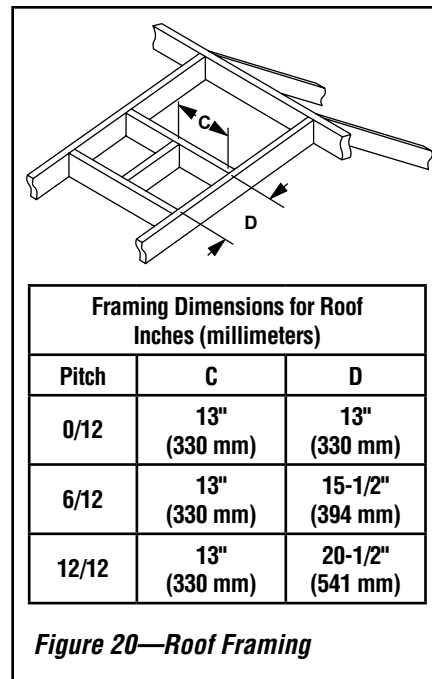

Figure 20—Roof Framing
H. Frame roof opening—Identify location for vent at the roof. Cut and/or frame opening per Roof Framing Chart (**Figure 20**).
Analyze the vent routing and determine the types and quantities of sections required 4-1/2" (114 mm), 10-1/2" (267 mm), 22-1/2" (572 mm), 34-1/2" (876 mm) and 46-1/2" (1181 mm) net section lengths are available. It is recommended that you plan the venting so that a joint does not occur in the ceiling or roof joists. Allow for elbows as indicated in **Figure 20 on Page 17**.